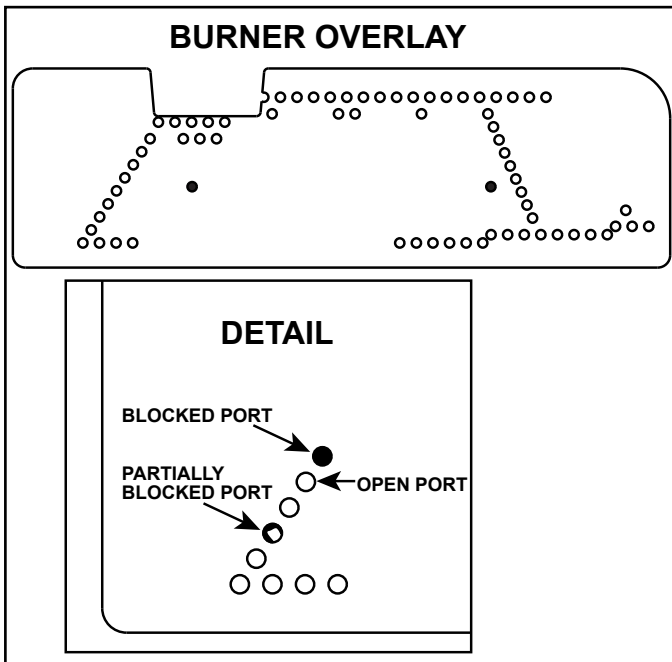

Figure 11.1 Check Burner Ports
2. Remove the burner overlay from the packaging. Check to ensure all ports are free from any obstructions. See Figure 11.1.